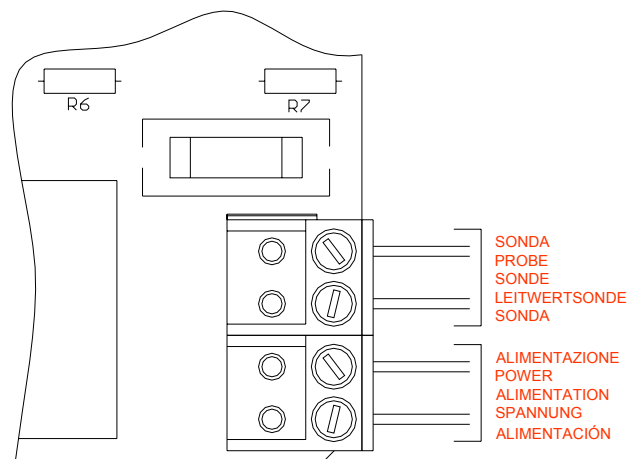

Fig. 3
- Reconnect the terminal to the electric circuit and assemble the front part of the pump with the aid of the fastening screws. For the wiring see fig. 3.